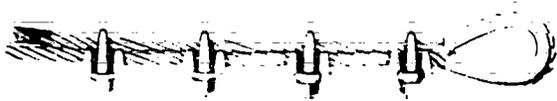

Figure 7-86. Applying U-Bolt Clips
**Application of Rope Clips** U-bolt clips **must** be attached so the "U" part of the clip is **over the dead end** of the rope as shown in Figure 7-86.